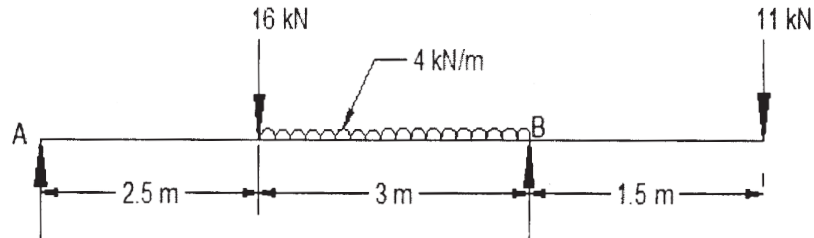

Fig. No. 3
- b) Draw SF and BM diagrams for the beam shown in Fig. No. 3. Also locate the point of contraflexure.